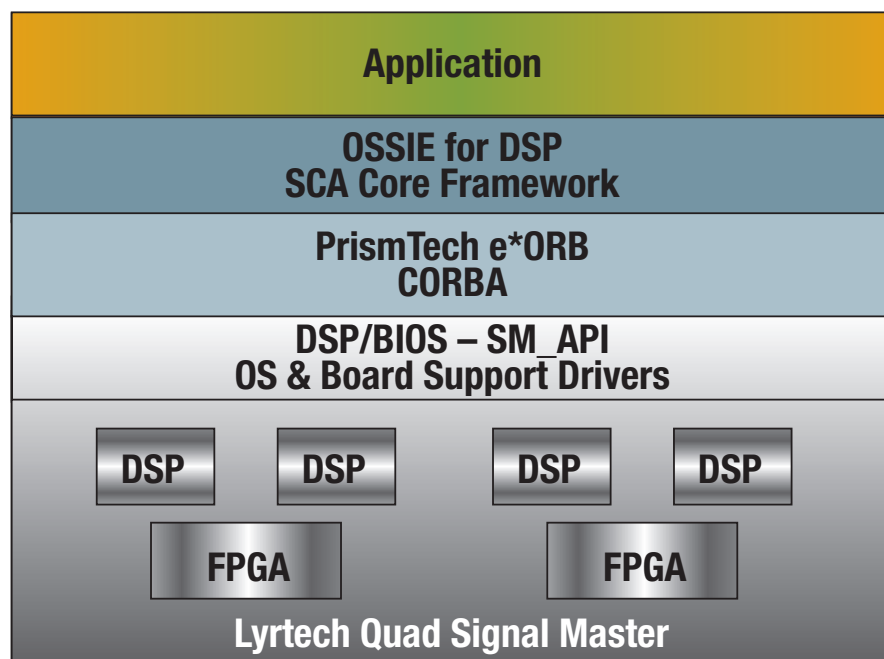

Figure 1
Our system's general software structure is shown in Figure 1, where three different components of the SCA Operational Environment (OE) are shown: Core Framework (CF), CORBA middleware,